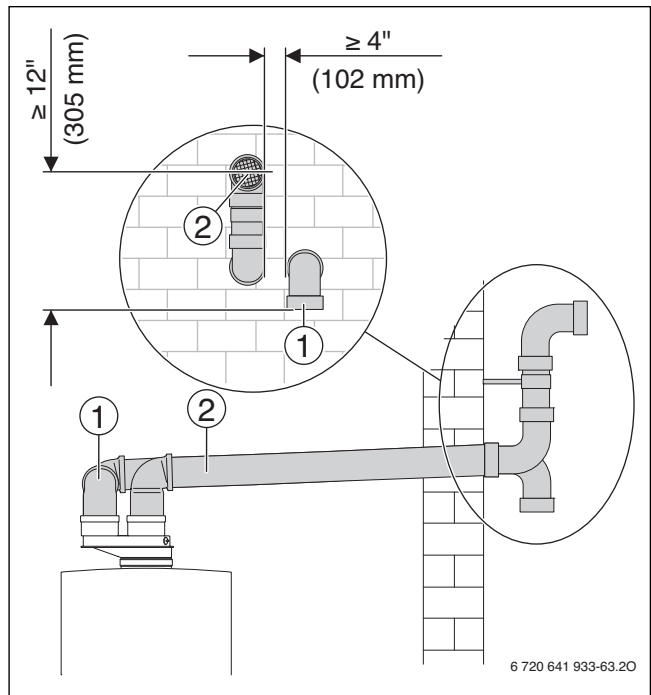
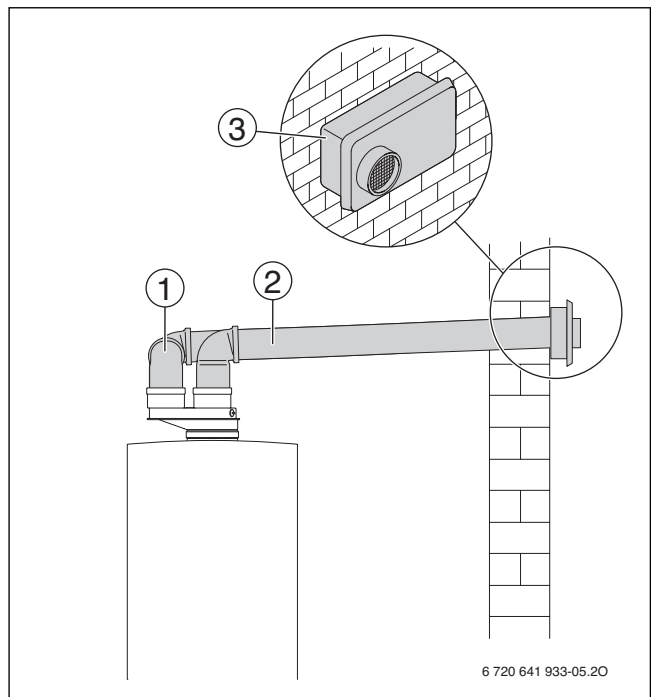

Fig. 34 Horizontal venting system (sealed combustion)
Fig. 35 Horizontal venting system (sealed combustion)
**Key to Fig. 34 and Fig. 35:**
Installations → Fig. 35 Stainless steel wall termination